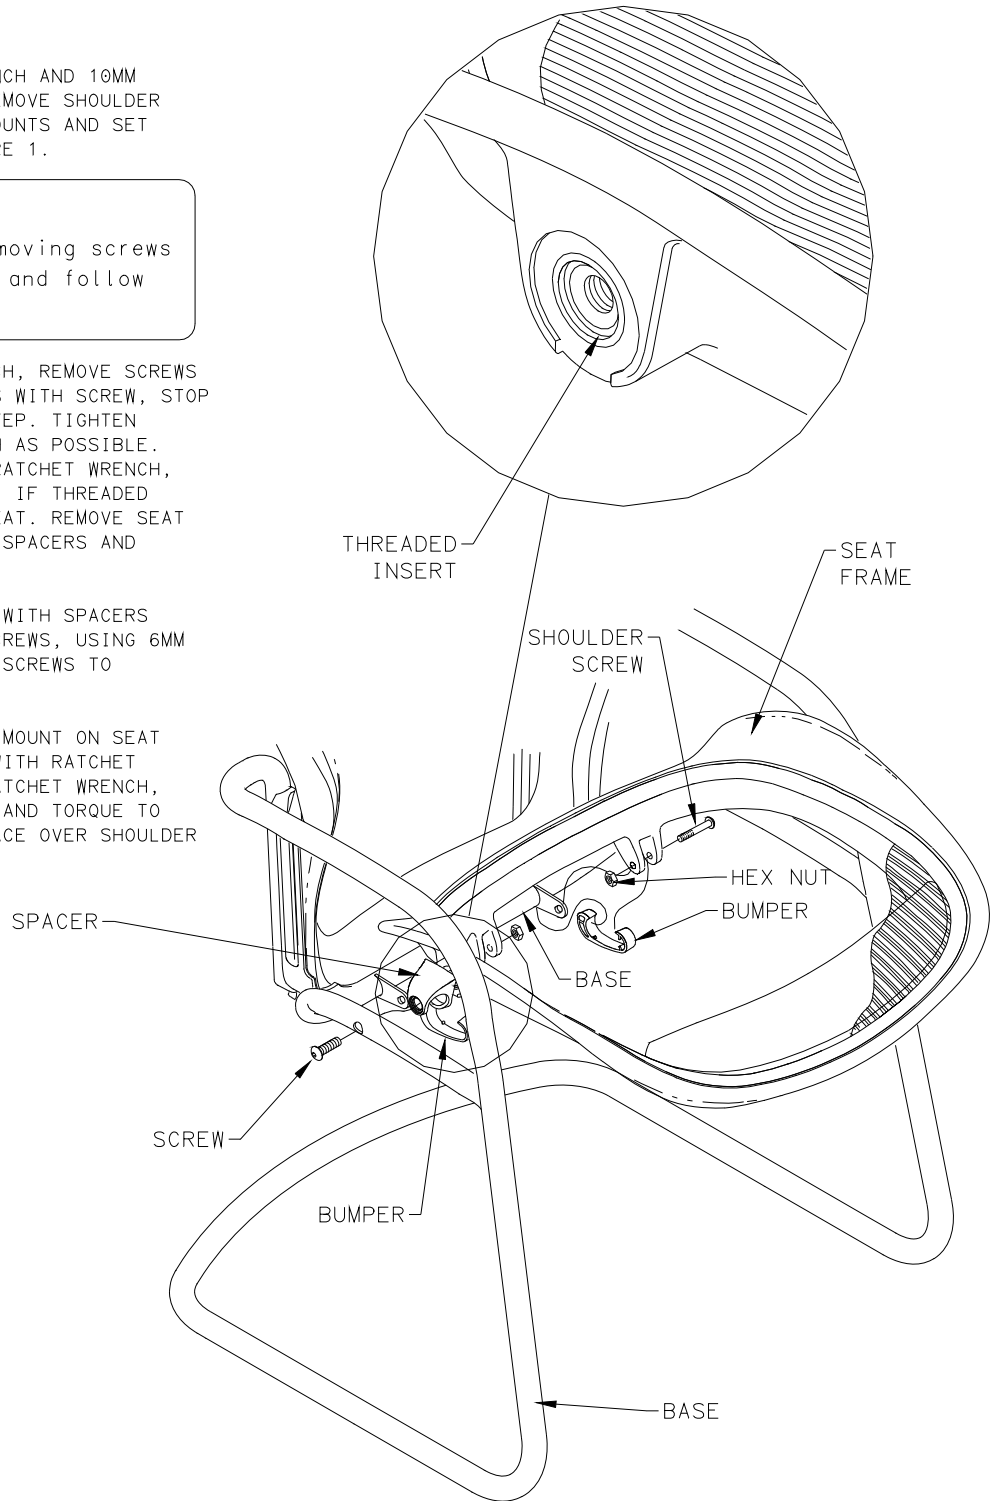

FIGURE 1
2. USING 6MM HEX BIT AND RATCHET WRENCH, REMOVE SCREWS FROM BASE. IF THREADED INSERT TURNS WITH SCREW, STOP IMMEDIATELY AND DO THE FOLLOWING STEP. TIGHTEN SCREWS INTO THREADED INSERT AS MUCH AS POSSIBLE. USING A QUICK JERKING MOTION WITH RATCHET WRENCH, BACKOUT SCREW FROM THREADED INSERT. IF THREADED INSERT STILL TURNS WITH SCREW, REPEAT. REMOVE SEAT AND DISPOSE OF PROPERLY. SET ASIDE SPACERS AND SCREWS. SEE FIGURE 1.
3. PLACE REPLACEMENT SEAT FRAME ALONG WITH SPACERS BETWEEN BASE AND SECURE WITH (2) SCREWS, USING 6MM HEX BIT AND RATCHET WRENCH. TORQUE SCREWS TO 180-200 IN LBS. SEE FIGURE 1.
4. INSERT SHOULDER SCREW THROUGH SEAT MOUNT ON SEAT FRAME AND BASE. USING 4MM HEX BIT WITH RATCHET WRENCH AND 10MM SOCKET HEAD WITH RATCHET WRENCH, TIGHTEN SHOULDER SCREW AND HEX NUT AND TORQUE TO 180-200 IN LBS. SNAP BUMPERS IN PLACE OVER SHOULDER SCREWS AND BASE. SEE FIGURE 1.